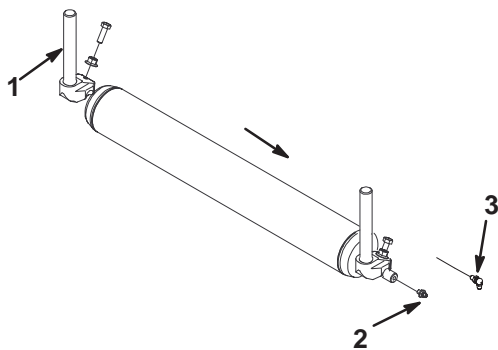

Figure 7
7. On motor end of cutting unit, remove bolt and flange nuts securing rear roller shaft to support rods. On opposite end of roller, loosen bolt and flange nut securing shaft to support rod. Slide roller to weight end; and lock roller shaft to support rod with bolt (to keep shaft from rotating) (Fig. 7).
8. Using a 5/16" wrench, remove straight grease fitting from weight end of roller shaft (Fig. 7).
9. Using a 3/8" wrench, thread a 90 degree grease fitting into end of roller shaft until approximately 1/8" thread is exposed. Do not over tighten. Grease fitting to be pointing down (Fig. 7).